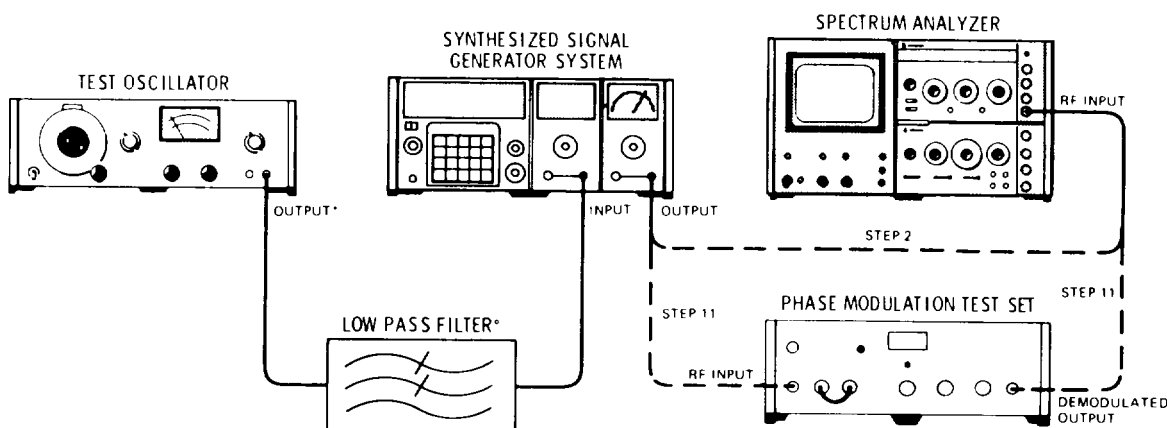

Figure 5-5B. Phase Modulation Level and Distortion Adjustment Test Setup (Alternate Procedure)
\*In Figure 5-5B, the test oscillator output and low pass filter impedances are 50 ohms when the modulation section being used is a Model 86634A and 600 ohm when used with an 86635A.
11. Connect the phase modulation test set between the signal generator output and the spectrum analyzer input as shown in Figure 5-5B.